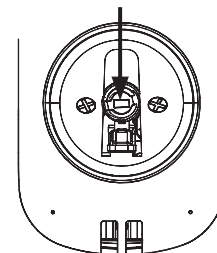

Figure 7A
7. Install inside escutcheon on inside mounting plate. Note the horizontal orientation of the tail-piece (Fig. 7A) as you insert the inside escutcheon (thumb turn should be vertical).